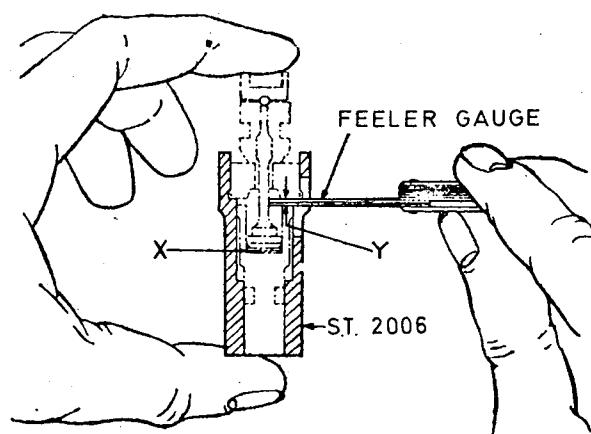

Fig.2 Use of special tool ST2006
8. (1) Fit the button, the shims, the spindle, the ball seat, the ball valve and the ball cage to the special tool ST2006 (fig.2).